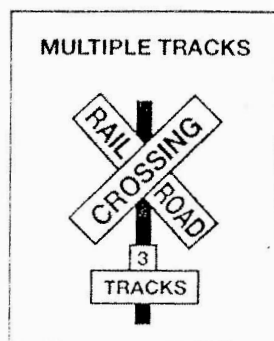

Figure 10.7
**Crossbuck Signs.** This sign marks a passive crossing. It requires you to yield the right-of-way to the train. When the road crosses over more than one set of tracks, a sign below the crossbuck specifies the number of tracks. See Figure 10.7.